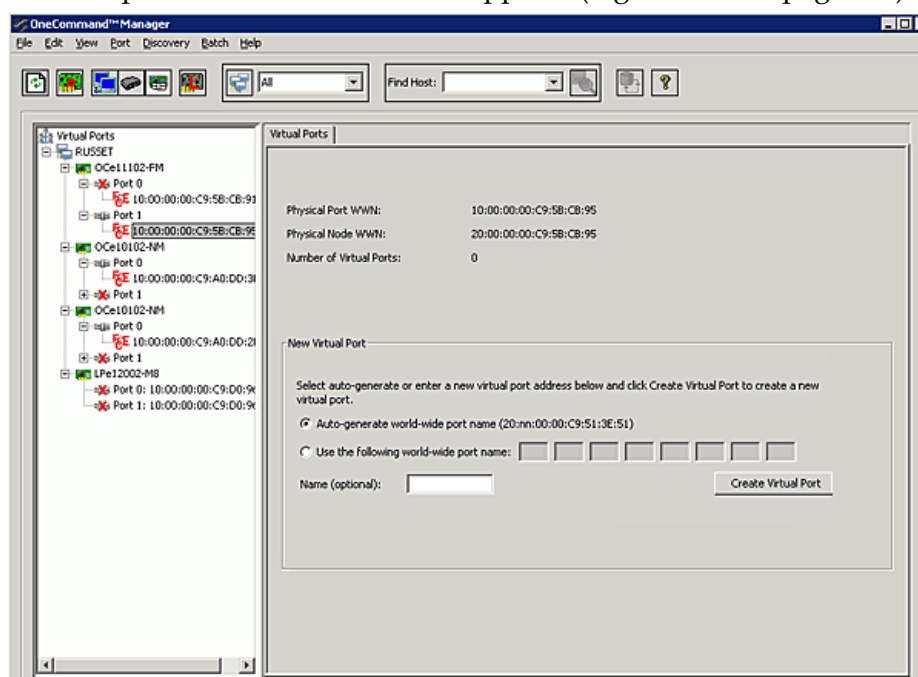

Figure 8-10 Virtual Ports Tab
Using the Virtual Ports tab (Figure 8-10 on page 130), you can automatically generate the WWPN for the virtual port based on the WWPN for the physical port or you can
2. From the discovery-tree, select the FC/FCoE function on which you want to create a virtual port. The Virtual Ports tab appears (Figure 8-10 on page 130).